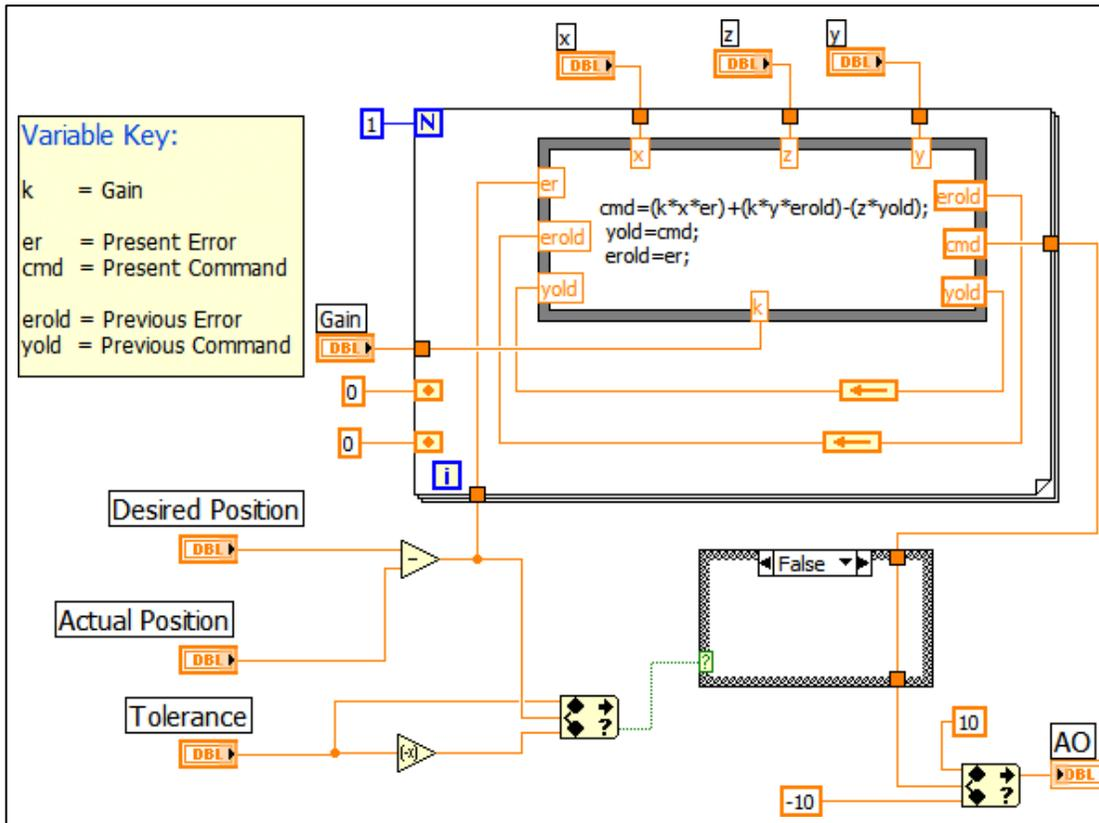

Fig. 6. Feedback VI when Cylinder Position is *not close* to Desired Position
- During closed loop control, the valve command is determined by the **Feedback** subroutine (VI). The valve command is found from the compensator’s **difference equation**.
- The valve command is a function of the **sample time** (T), the compensator **zero** and **pole** locations (a , b), the **current** and **previous** position **errors** (e_r , e_{old}), and the **previous valve command** (y_{old}). The **current error** is calculated as the difference between the **desired** and **actual** positions (in inches).
- Once the position of the cylinder is within the **tolerance** of the desired position, the valve command is set to **zero**, keeping the system from trying to make **small corrections** to the position. **Figs 6** and **7** show the feedback block diagram when the system **is** and **is not** within the **tolerance** of the desired position.